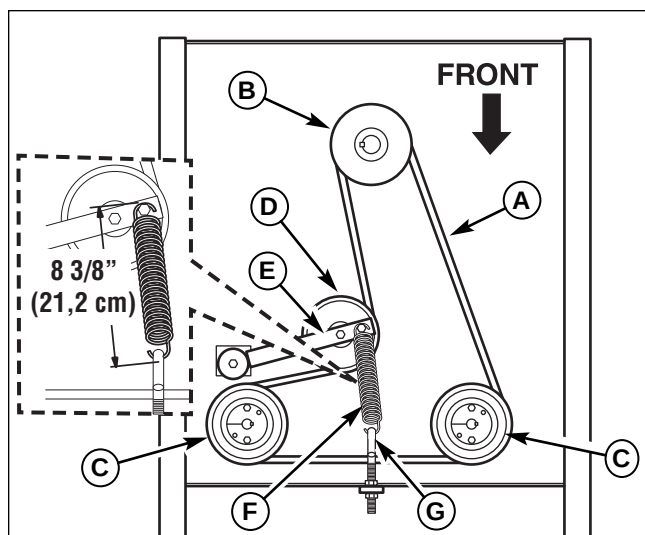

Figure 46. Hydraulic Pump Drive Belt Replacement
4. Loosen the nut towards the front of the machine on the spring anchor hook (G, Figure 46) to release the majority of the belt tension. Use caution and remove the nut to completely release the tension.
6. Reinstall the anchor hook (G) into the anchor tab and loosely fasten the nut. Adjust the anchor hook until a measurement of 8-3/8" (21,2 cm) is achieved from the outside of the spring hooks. Tighten nut.